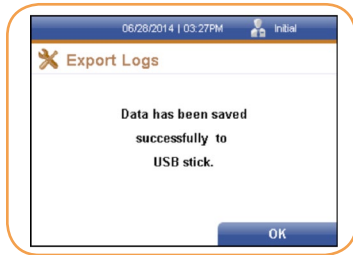

FIGURE 127
3. A window confirming that the data has been successfully saved to a USB stick is displayed (Figure 127).